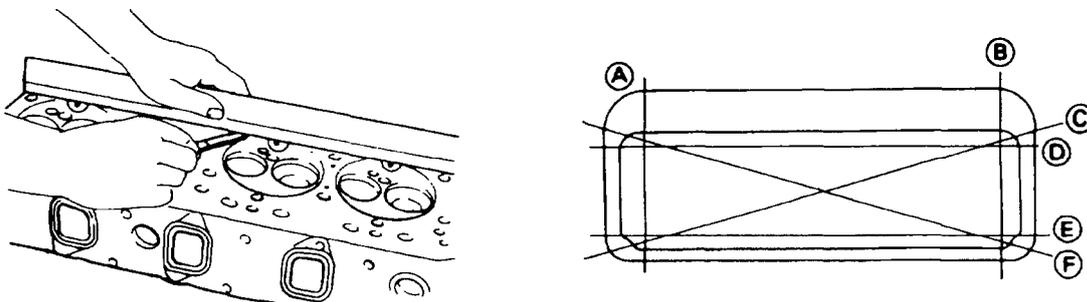

**Figure 2 Valve Removal**
- Install a spring compressor (Table 3, Serial 65) over a valve (Figure 2).